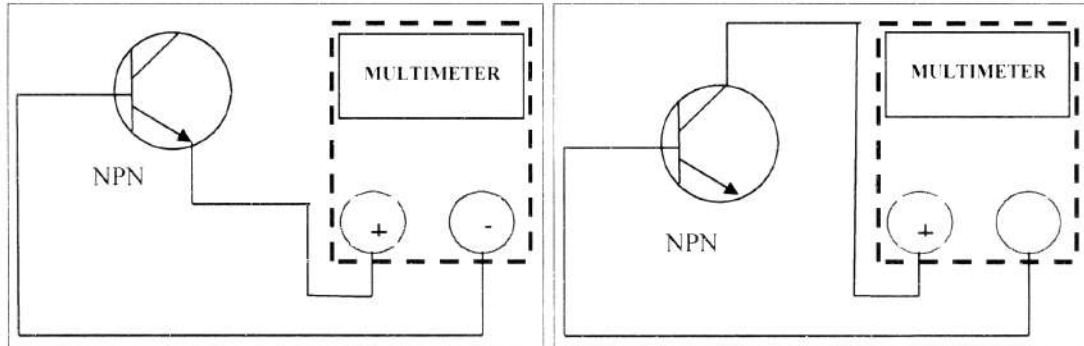

Fig. 3
- (ii) Connect the negative probe of multimeter to the base terminal of the transistor and positive probe to either emitter terminal or collector terminal (as shown in Fig. 3). In both the cases reverse biasing condition will satisfy and multi meter will show open circuit condition.